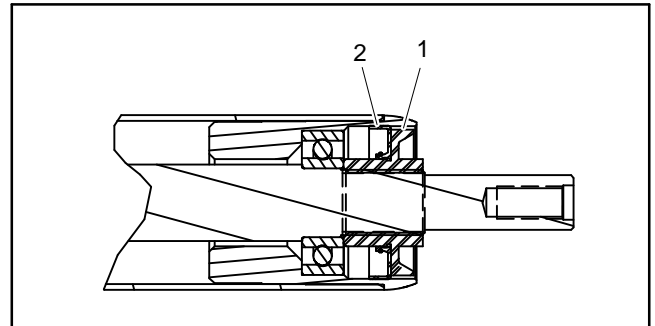

Figure 36
7. Install a nut with seal onto each end of the roller shaft. Tighten nuts until they bottom against bearings (Fig. 36). Remove nuts from roller shaft.